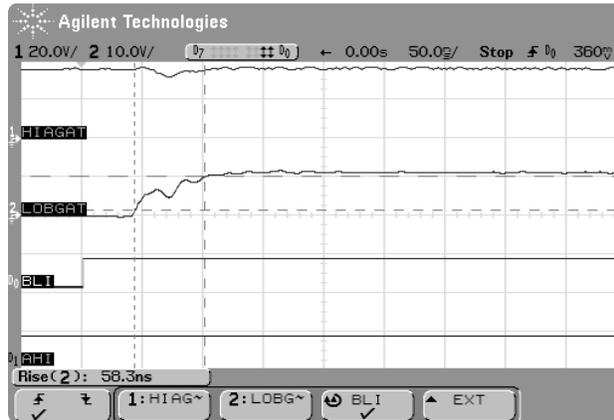

Figure 3. Using the “Quick Meas” menu in the 54642D MSO, the gate-drive voltage rise time can be quickly discerned.
In this design, we concentrated on taking measurements of a speed control system running in one direction only. Therefore, only two MOSFET drive signals are displayed in Figure 3. With the number of digital channels available on the 54642D MSO (16), it is feasible to monitor all four MOSFET drive signals, which would be useful for bi-directional systems. An additional 12 digital level signals, including limit switches, brake inputs, and other digital control or feedback signals,